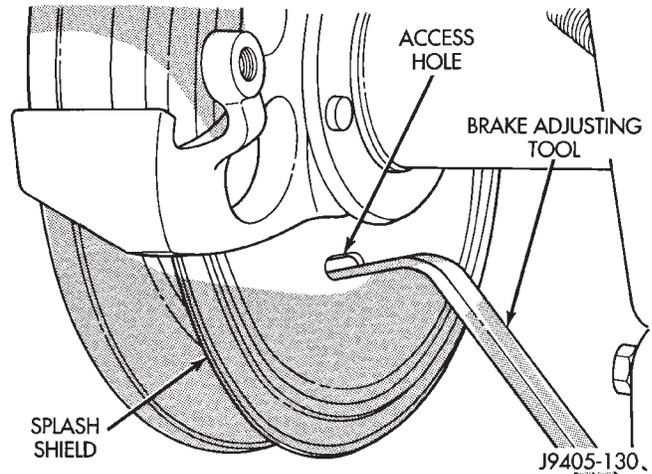

Fig. 42 Backing Off Parking Brake Shoes
- (1) Raise vehicle.
- (2) Remove wheel and tire assembly.
- (3) Remove caliper.
- (4) Remove access plug from splash shield and back off parking brake shoes by rotating adjuster screw star wheel with brake tool (Fig. 42). At driver side rear wheel, rotate adjuster screw star wheel clockwise to back off shoes. At passenger side wheel, rotate star wheel in counterclockwise direction. Direction of rotation is while looking from rear to front of vehicle.
- (5) If rotor and/or axle hub contact surfaces are heavily rusted, apply rust penetrant oil to rotor and axle hub and through spaces around wheel studs.
- (6) Remove push nuts securing rotor to axle shaft studs.
- (7) Work rotor off axle hub and studs. Use plastic or rawhide mallet to loosen rotor if necessary.
- (8) Clean and inspect rotor braking surfaces. Refinish, or replace rotor if necessary.